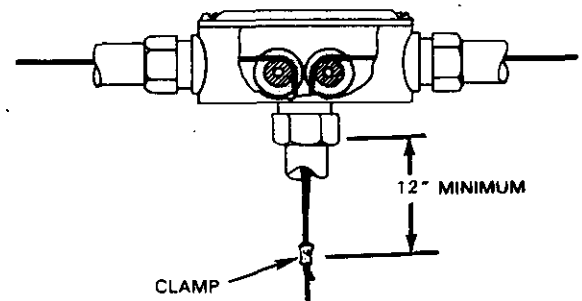

Figure 6-5. Tee Pulley Installation
H. Tee Pulley — The tee pulley can be connected wherever two responses are needed from a particular input. This is limited to two pull stations operating a control head or two energy shutoff devices being closed from a single control head. (See Figure 6-5.)